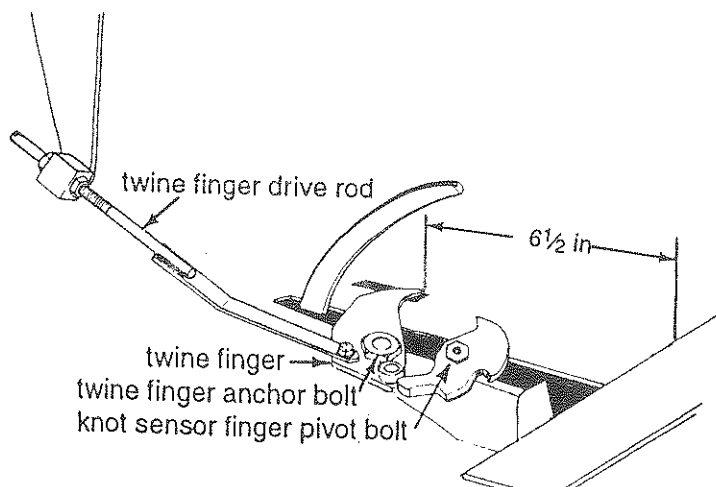

Fig. 22
This adjustment is made by loosening the twine finger anchor bolt (A) and knot sensor finger pivot bolt (B) and sliding them to the front or back of the slotted holes in the bale chamber top, see **Fig. 22**.
Measure the distance from the tip of the twine fingers back to the chamber brace behind the knotter, see **Fig. 22**. This measurement should be 6½ inches. Adjustment is made by lengthening or shortening the twine finger drive rods, see (C), **Fig. 22**.